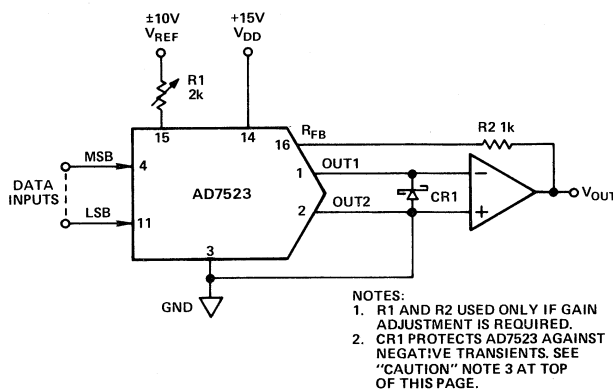

Figure 1. Unipolar Binary Operation (2-Quadrant Multiplication)
3. The inputs of some IC amplifiers (especially wide bandwidth types) present a low impedance to V^- during power-up or power-down sequencing. To prevent the AD7523 OUT1 or OUT2 terminals from exceeding $-300mV$ (which causes catastrophic substrate current) a Schottky diode (HP5082-2811 or equivalent) is recommended. The diode should be connected between OUT1 (OUT2) and ground as shown in Figures 1 and 2.